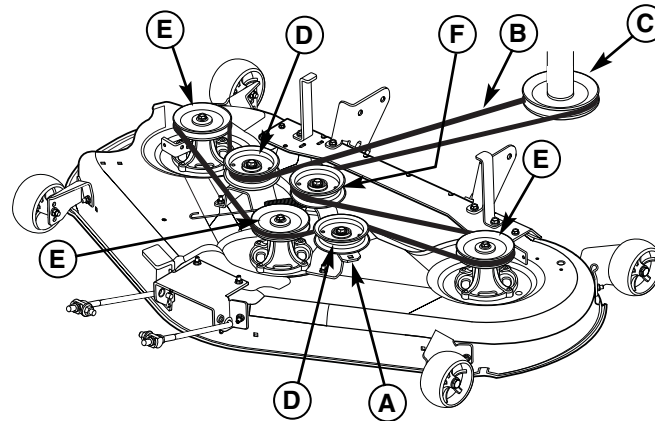

Figure 14. Mower Belt Routing
3. Insert ratchet into 3/8" (9.5 mm) square in idler pulley arm (A, Figure 14) and pull to release belt tension. Remove the mower belt (B) from engine drive pulley (C).
2. Install the front hitch rods and secure with hair pin clips (B).
3. Slide the mower deck backwards and connect the rear lift arms to the mower deck. Secure with hair pin clips (A).
7. Insert ratchet into 3/8" (9.5 mm) square hole in idler pulley arm (A, Figure 14) and pull to release belt tension. Install the mower belt (B) as shown in Figure 14.